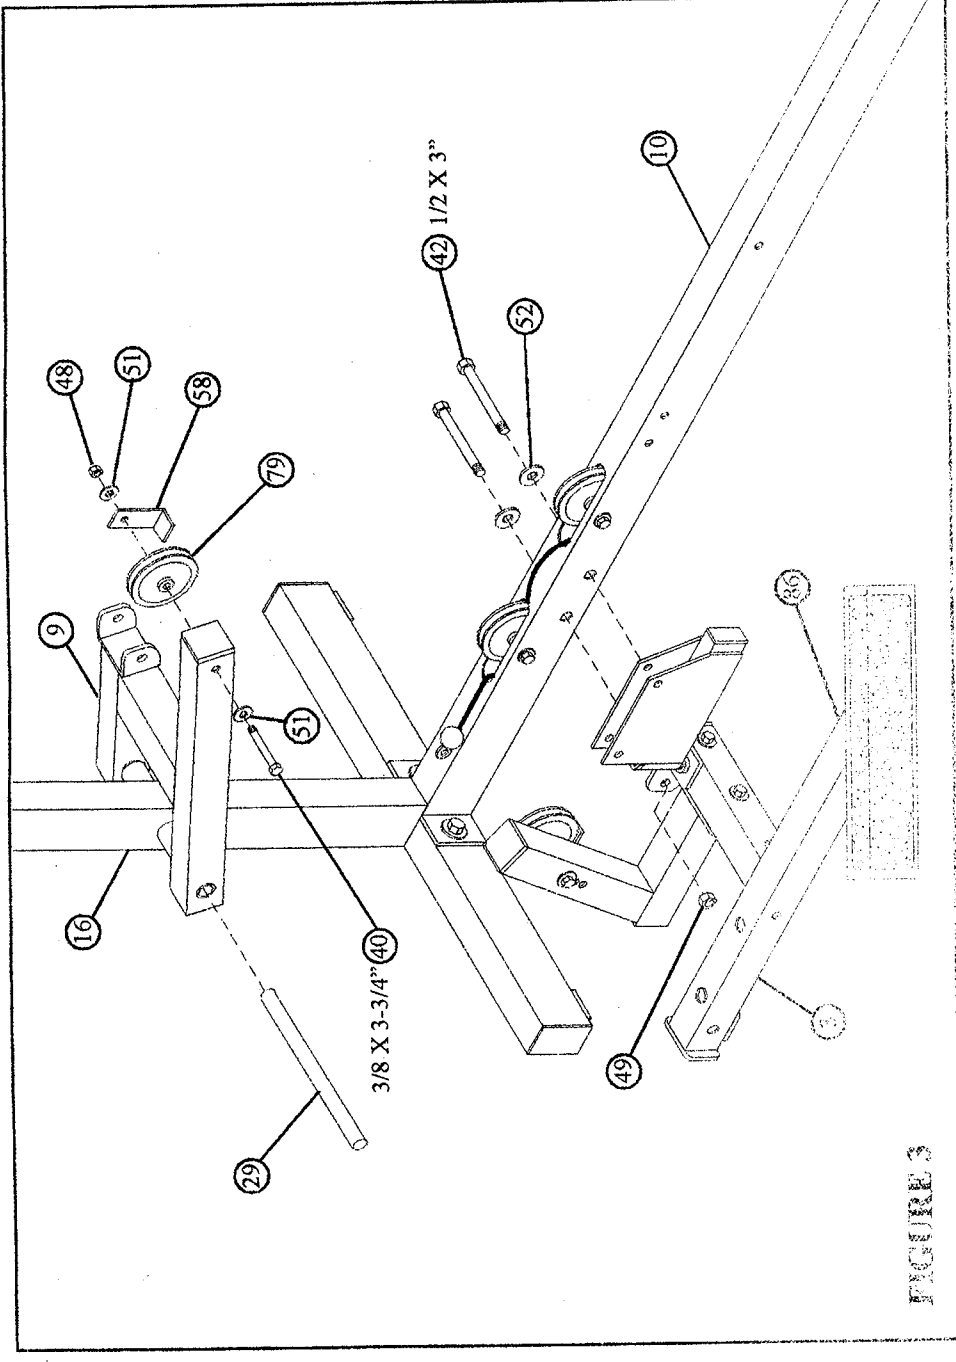

FIGURE 3
- Securely attach WEIGHT HANGER BASE (1) to DASH (10) using two 1/2 X 3" BOLTS (42), two 1/2" WASHERS (52), and one 1/2" LOCKNUT (49).
- Slide one 3/4 DIA X 11" SHAFT (29) through PRESS ARM LEVER (9) & tube on REAR UPRIGHT (16). See FIGURE 3.
- Securely assemble one 3-1/2" PULLEY (79) to PRESS ARM LEVER (9) using one 3/8 X 3-3/4" BOLT (40), two 3/8" WASHERS (51), one 2-3/8" RETAINING CLIP (58), and one 3/8" LOCKNUT (48).